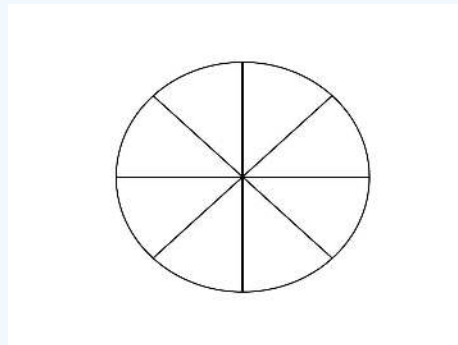

Figure 3.4. Petri plate divided into eight equal sections.
- Divide a petri plate into 8 sections by drawing 4 lines across the plate (Figure 3.4). Label each section with a dilution name.